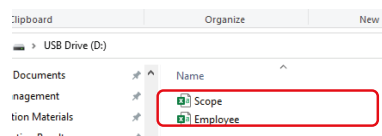
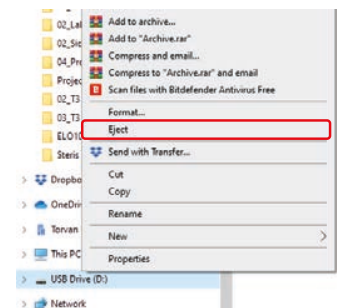

Fig. 59
Fig. 60
4. Copy/Cut the Employee.csv and Scope.csv files to the formatted USB (Fig. 59), and then safely Eject the USB (Fig. 60).